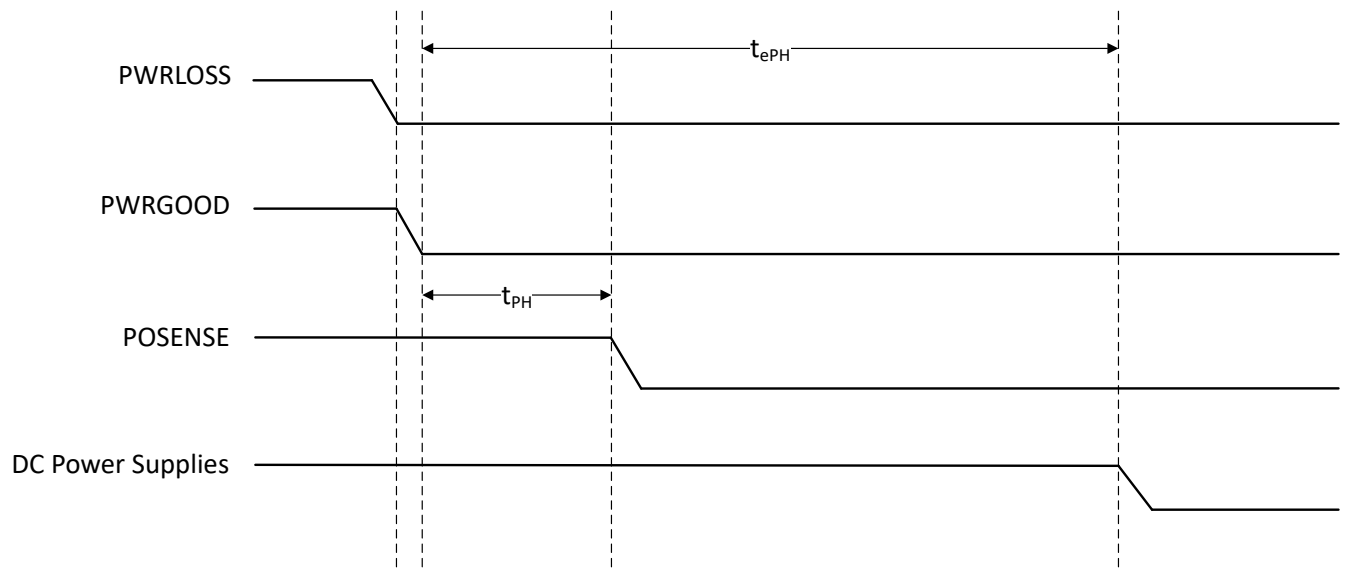

图 5-5. Unanticipated Power Loss Timing Diagram
2. An unanticipated power loss. In this case, a power loss detection circuit must provide a means of triggering a power loss. 图 5-5 shows a timing diagram where the Voltage Monitor detects a power loss and deasserts PWRGOOD. **Power Regulation must maintain the DC Power Supplies until the minimum  $t_{\text{ePH}}$  is met.** During  $t_{\text{ePH}}$  the DLPC900 performs the necessary power-down sequence on the DMD. The power supplies can be allowed to drop below their specifications once the minimum  $t_{\text{ePH}}$  is met.